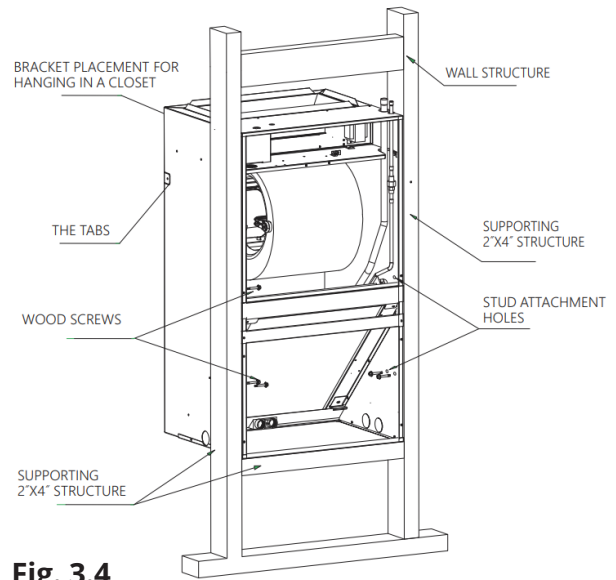

Fig. 3.4
The air handler comes with 8 clearance holes (4 on each side). These holes are used to mount the air handler inside of a frame structure (see Figure 3.4). When mounting in this fashion, make sure that the wood screws are mounted from within the air handler and not from outside the unit in order to avoid damaging the coil. If the frame does not provide support in the front of the unit and additional support is needed, open up the tabs and fix the unit to the frame or other support structure with the screws. Select a solid and level site to ensure proper installation of the frame mount. Verify that there is sufficient space for installation and maintenance (see Figure 3.4).
The (8) wood screws are not provided with the unit. #12 x 1.5in wood screws are recommended. When the unit is installed on a wood frame, the screws should be used to fix the unit to the studs. If they are not used, the unit may fall down or cause other damage. See Fig. 3.4 for frame mount installation.